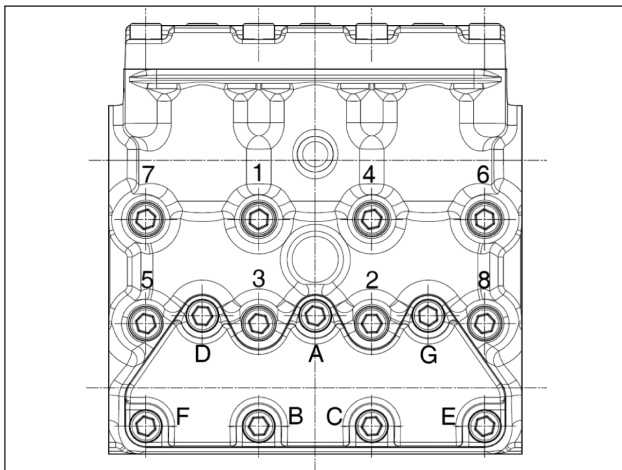

Fig. 24
- ** The head fixing screws exploded view pos. 39 (65-KFR) must be tightened with a torque wrench, lubricating the threaded shank, respecting the order shown in the diagram in Fig. 24.
- *** The valve cover fixing screws exploded view pos. 40 (61-KFR) must be tightened with a torque wrench, lubricating the threaded shank, respecting the order shown in the diagram in Fig. 24.